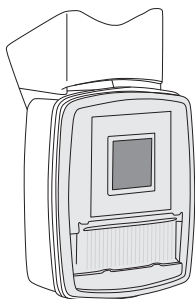

Fig. 16: Rain and sun sensor
1. Insert the manual crank in the crank slot (fig. 16).